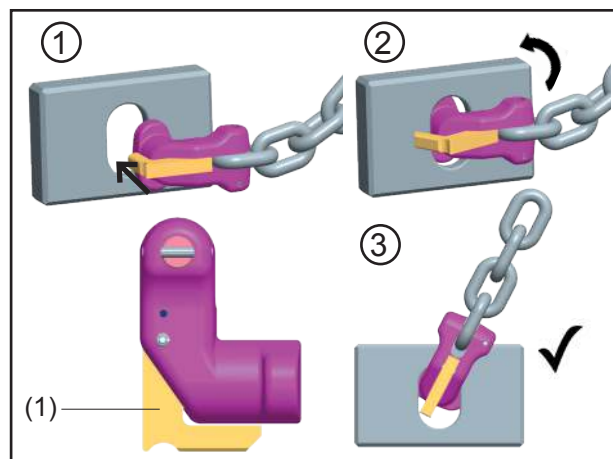

Fig. 3: Insertion of the VIP container hook VCH-K 16
1. Insert the container hook VCH-K 16 as shown in fig. 3 into the ISO corner. The latch (1) opens and closes automatically during insertion.
5. Pull the latch to remove the container hook (fig. 3 (1)).